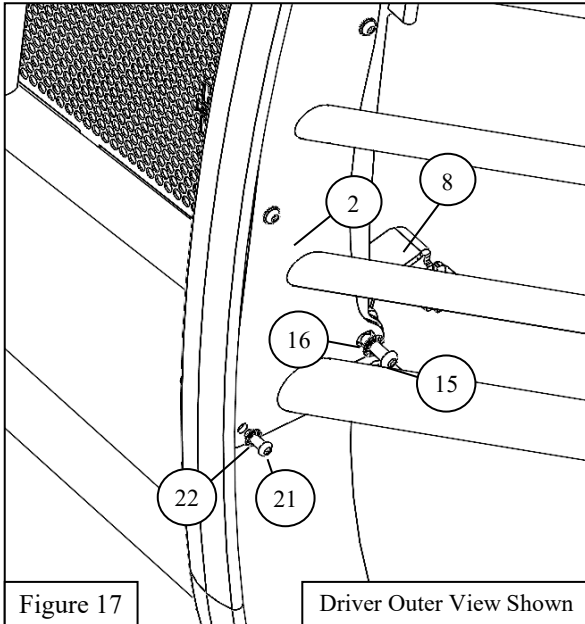

Figure 17
19. Locate and install the HDX Driver and Passenger Wings (Items 2 & 3) using the supplied M8 hardware (Items 20-22). See **Figure 17 & 18** for reference. **Note:** The shared Upper Support Strap mounting location will use the M10 Hardware as mentioned before. Install the Bellville washers so that the serrated side contacts the HDX wing.